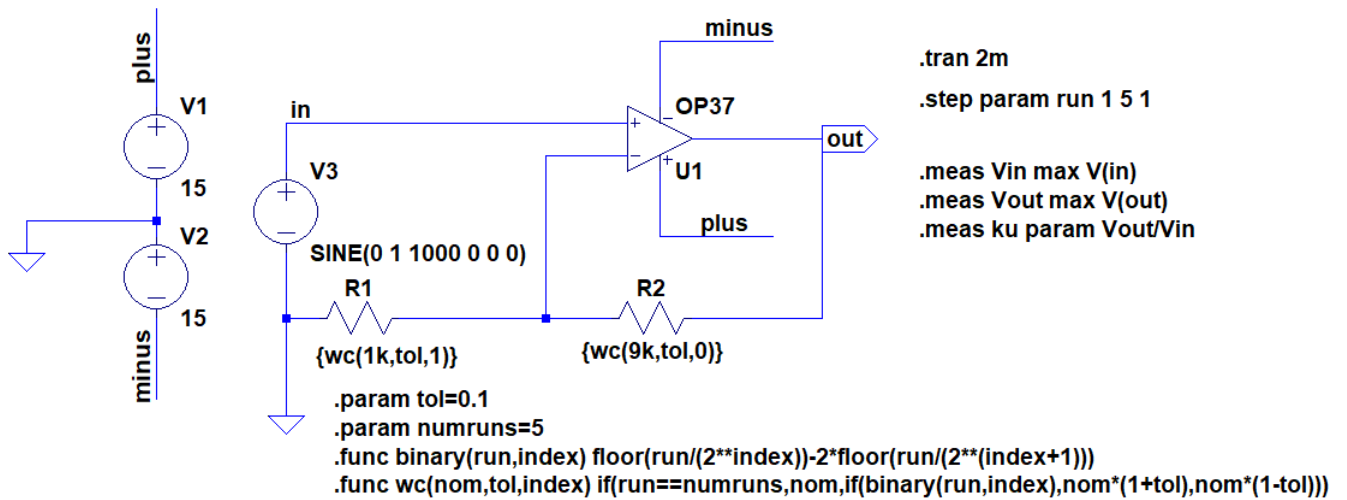

Fig. 5. Diagram of the tested amplifier circuit for WC analysis.
1. Modify the amplifier circuit diagram as shown in Figure 5.